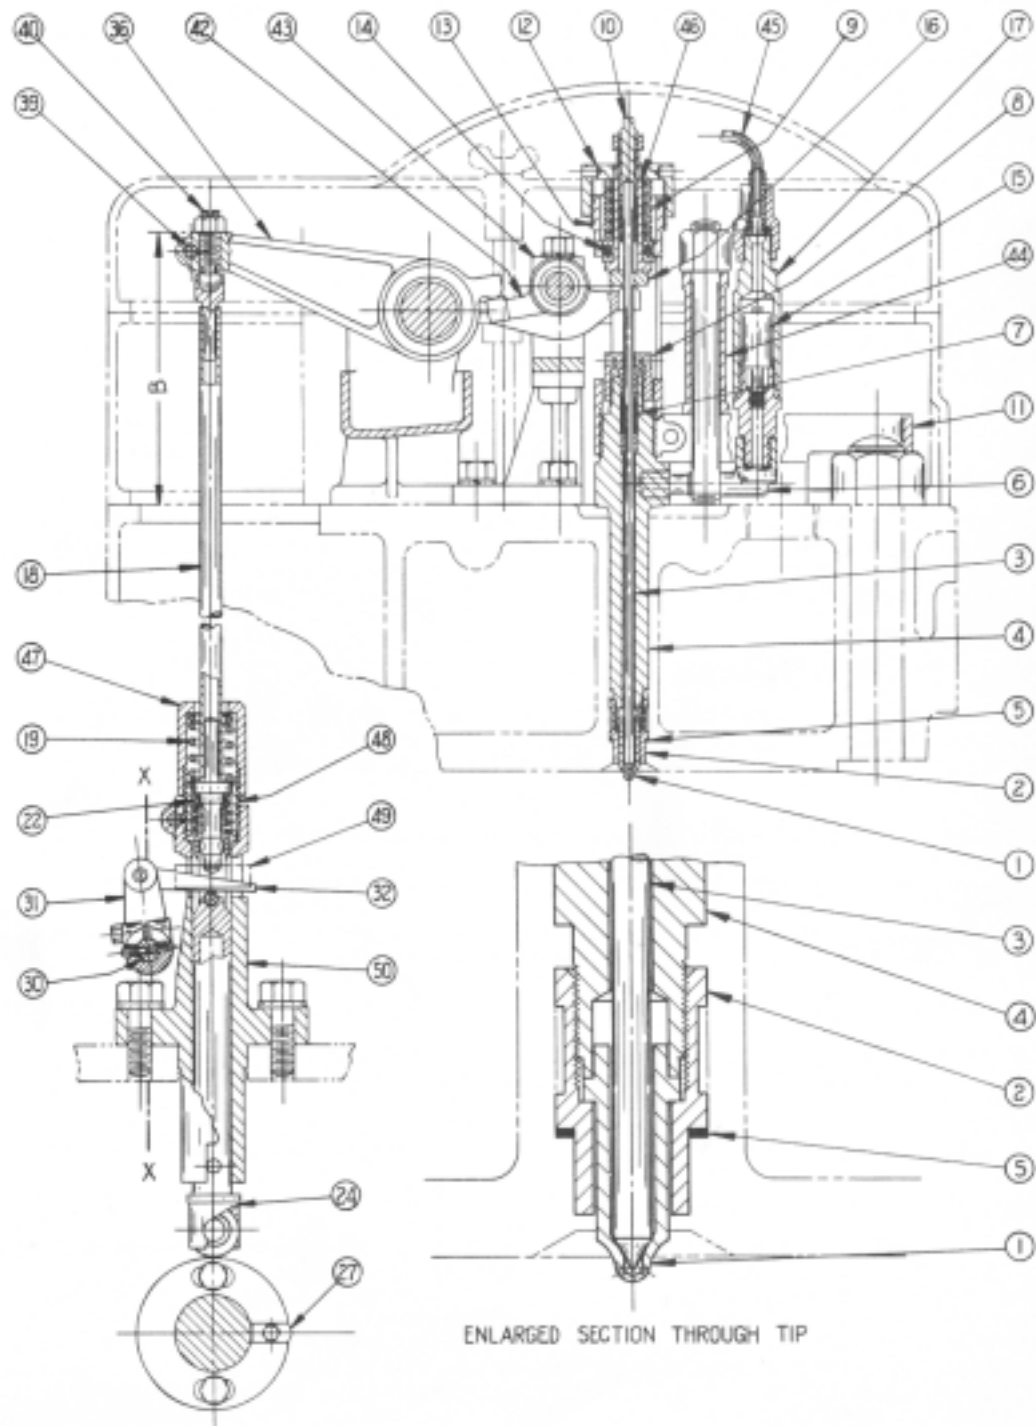

FIG. O-4
7. REMOVAL OF SPRAY VALVE FROM ENGINE (See Fig. O-4)
- (a) Remove the two capscrews holding spray valve rocker bearing (43) in place, and remove the bearing and rocker assembly.
9. DISASSEMBLY OF SPRAY VALVE (See Fig. O-4)
Referring to Fig. O-4, spring (9) must be adjusted to a certain tension in order to assure proper functioning of the spray valve. It is further important that the adjustment of all the spray valve springs be the same or that the "lift" on all the spray valves be the same. With "lift" as used in the following instructions is understood the lift which spring (9) will allow before its coils touch each other and prevent further upward movement of the valve stem. (The actual lift when the spray valves are operating in the engine is of course determined by the position of fuel wedge (32), the adjustment on pushrod (18) and cam (27). This actual lift is less than the "lift" as defined in this paragraph.) Proceed as follows to assemble the valve and adjust for proper "lift" (or opening tension):
- (a) Wet spindle (3) with clean fuel oil and slip it into position in the valve body.
- (b) Clean the spray valve tip and install it carefully on the valve body. Tighten valve seat nut (2) securely.
- (c) Screw down on spring retainer (12) carefully until the coils of spring (9) just touch. Be careful not to screw down so hard that valve stem (3) bends, rendering it useless. It is best to have the valve in the test stand when performing this operation and determine when spring (9) becomes solid by means of the test handle. When it is not possible to lift the spray valve stem by means of the test handle the spring coils are touching. The "lift" is then zero.
- (d) Unscrew spring retainer (12) 3/4 to 7/8 turns which will make the "lift" 1/16". The "lift" on all the valves should be between 1/16" and 5/64".
- (e) Screw down on packing nut (8) until it is just finger-tight.
The spray valve is installed in the engine in the reverse order of its removal. Again referring to Fig. O-4, if copper gasket (5) is in the cylinder head merely lower the valve into position. If the copper gasket (5) was removed with the valve, the gasket can be held in position on the lower end of the valve by a thin coating of grease applied to the washer.
16. SPRAY VALVE OPERATING MECHANISM (See Fig. O-4)
The spray valve is actuated through cam (27), lifter or cam follower (24), push rod (18), and rockers (36) and (42). Motion of the lifter is transmitted to the pushrod through wedge (32). The pushrod is held up free of the wedge by spring (22), so that, except during the time that the lifter is raised by the cam, there is clearance between the wedge and the pushrod. As can readily be seen in Fig. O-4, moving the wedge inward will decrease this clearance and the spray valve will open sooner, will lift higher, and will close later. Moving the wedges outward produces the opposite results. The outer end of the wedge is pinned to lever (31), which is clamped to wedge shaft (30). This shaft is rotated by the governor, through connecting linkage. The governor thus moves the wedges in and out as it operates under fluctuations in the engine speed, and so exercises complete control over the spray valves.
When the engine was tested at the factory, wedge levers (31) were adjusted to be parallel to each other and in line on wedge shaft (30) and were then clamped and pinned to the shaft. If new levers or a new wedge shaft are installed it is important that they be lined up in accordance with the above. The position of the fulcrum of wedges (32) for the full load full speed position (wedges fully in) should be about 1/4" inside the vertical line X-X through the center of the wedge shaft. It is determined by stop (49) which is bolted to one of the lifter guides and which limits the motion of the fulcrum pin. The position of the wedge fulcrum for idling at low speeds should be as shown in Fig. O-4, that is about 1/4" outside of line X-X. In other words line X-X should divide the total movement of the wedge fulcrum into two approximately equal parts.
Levers (36) on all cylinders should be parallel, and should be adjusted so that the dimension "B" in Fig. O-4 is approximately 7-1/32 inches. This adjustment is made by locating spray valve spindle sleeve (46) on the spindle extension (10). Back out adjusting screw (40) so that rocker (36) is free of the pushrod. Hold rocker (36) up so that the forked end of rocker (42) is bearing firmly up against washer (16) (do not lift with sufficient force to open the spray valve). Screw sleeve (46) up or down as required to locate rocker (36) in the desired position. Secure adjustment with the jam nut provided.
17. SPRAY VALVE TIMING (See Fig. O-4)
The amount of fuel injected and consequently the load carrying capacity of a cylinder may be changed by adjusting screw (40). Referring to Fig. O-4, clamp screw (39) should be loosened and the adjusting screw turned to affect the adjustment. It should be noted, however, that this adjustment will affect the spray valve timing. Therefore, the adjustment should not be appreciable and should not exceed one turn of the adjusting screw from the position obtained when timing the spray valve.